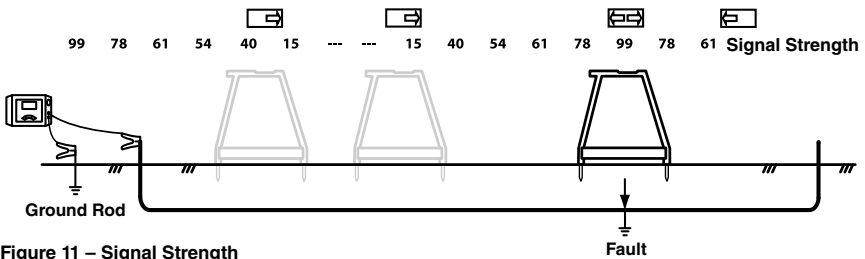

Figure 11 – Signal Strength
- Remove the receiver from the earth and move several steps as indicated by the directional arrow and beeping along the conductor path. Reinsert the receiver spikes into the earth (*Figure 11*).